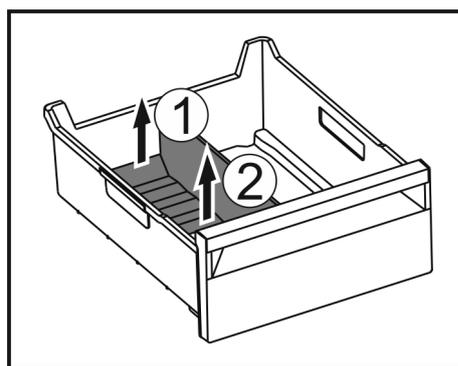

Fig. 173
- ▶ Lift the rear part of the ice compartment divider. Fig. 173 (1)
- ▶ Remove the ice compartment divider upwards. Fig. 173 (2)